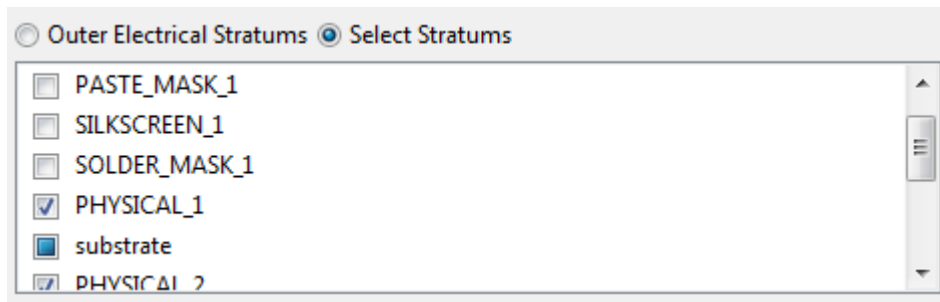

Figure 10. Select Stratum
- **Select Stratum** option allows to select all available stratums and their representation (see Figure 10). Select this radio button in order